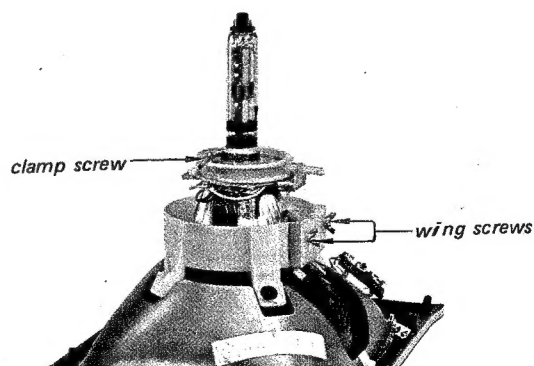

Fig. 2-23.
16. Remove the two wing screws in Fig. 2-23, and loosen the clamp screw to take off the deflection yoke.